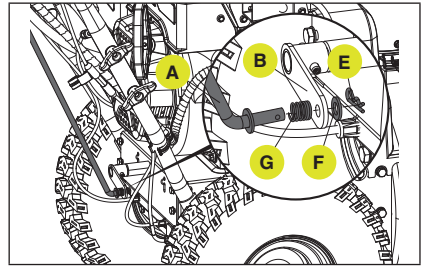

Figure 39
1. Locate the speed control rod (A) connected to the connecting lever base (B). Disassemble the speed control rod from the connecting lever base. (Fig. 39)
4. Reinstall connecting lever rod to the connecting lever base then install the clip (E) and washer (F). Make sure the spring (G) is loaded on the correct side as shown earlier. (Fig. 39)
6. Tighten the nut from earlier (C).